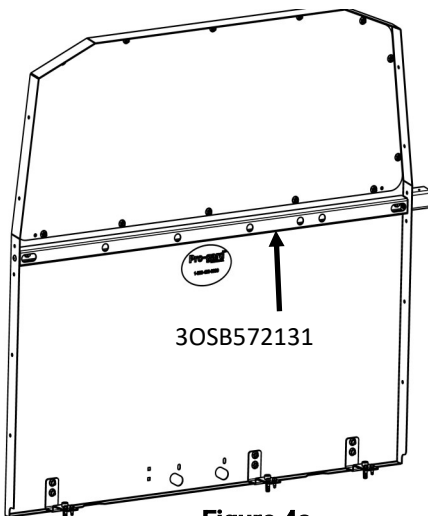

Figure 4a
9. Locate the Mother OSB Bar [3OSB572131], the Daughter OSB Bar [3OSB572130 or 3OSB572123 for retractable belt], (9) 5/16"-18 x 3/4" button head screws [3X149] and (9) 5/16"-18 whiz nuts [3X619]. Loosely install the bars in the orientation shown in figures 4a and 4b. The small side of the through holes in the bars goes against the barrier and the whiz nuts go on the back side of the barrier inside the Mother OSB Bar. Ensure the small holes for mounting the seat on the Daughter OSB Bar are facing upwards.